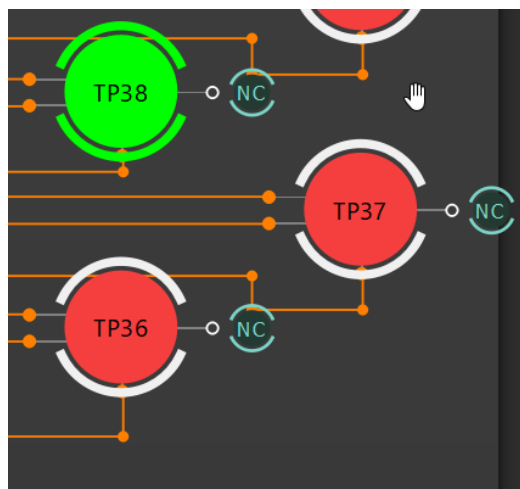

Figure 31. TP Map
- j. **TP Map** – The Test Points of each pin will be shown next to their respective pin (Figure 31).